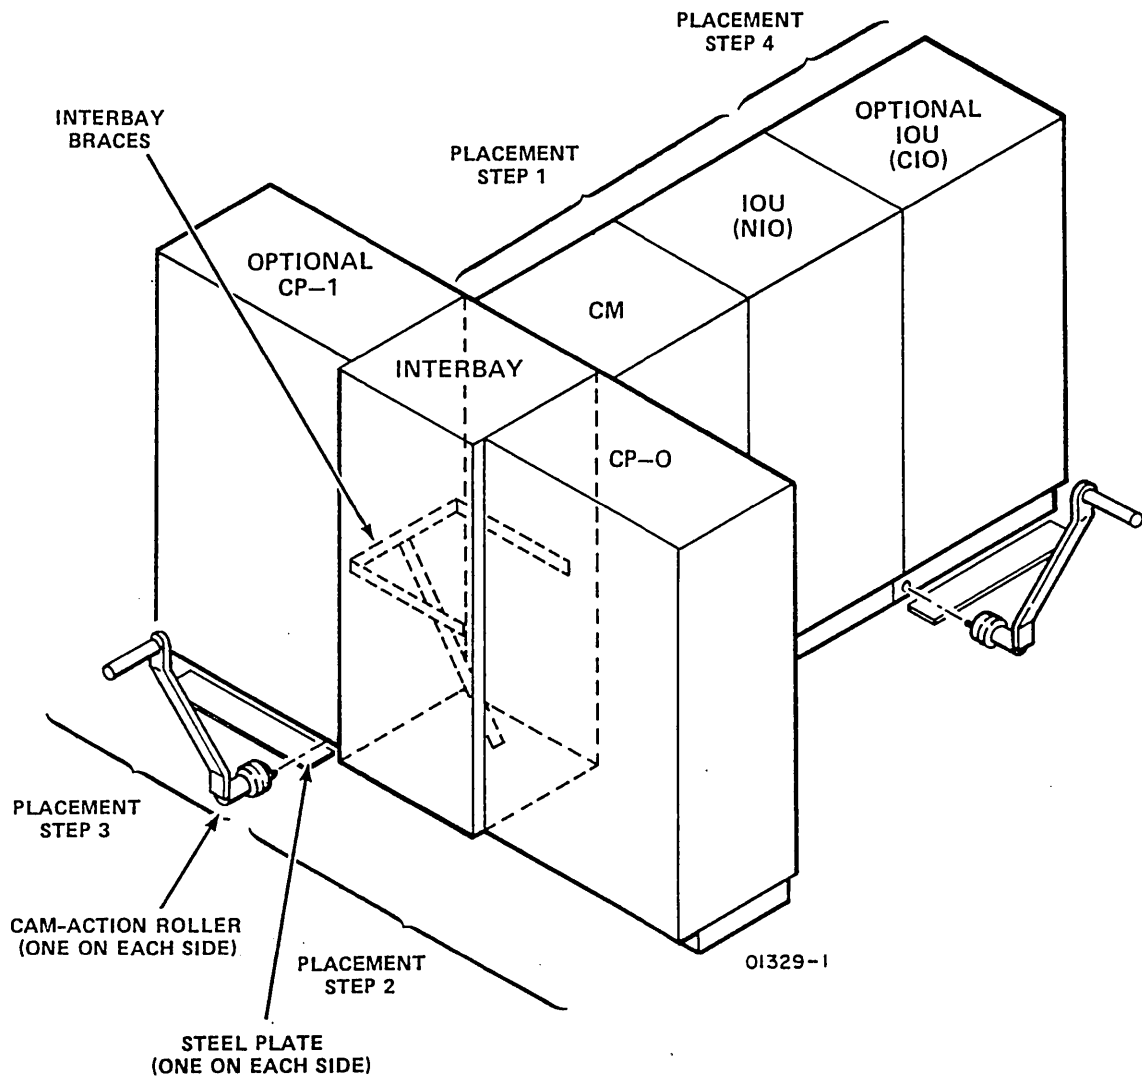

Figure 3-1. Cabinet Placements
- ___ 1. Place CM and IOU (NIO) cabinets (figure 3-1), using two Rol-a-lifts with padding between Rol-a-lifts and cabinet to protect cabinet.
- ___ c. Install a cam-action roller on each side of CP-1 cabinet (figure 3-1). Place a heavy-gauge steel plate under each roller to protect floor.